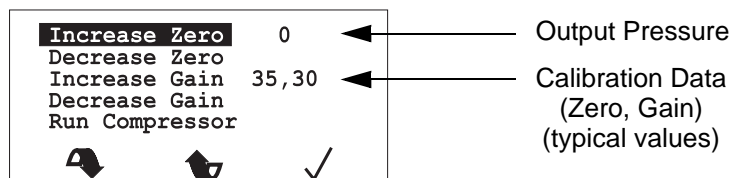

Figure 26 - LCD Display - Calibration Data
- 8.6 Using the **Down** and **Up** buttons below the LCD display (Refer to Page 5, Section 4), scroll down the list of options to **Calibrate PT**, and select it using the **✓** button below the LCD display. A new list of options will appear (Refer to Figure 26).
- 8.7 Before continuing with the re-calibration procedure, refer to the two **Calibration Data** values on the LCD display, and make a note of the **Zero** and **Gain** values (Refer to Figure 26).
- 8.9 Check the value of the **Output Pressure** shown on the LCD display (Refer to Figure 26). It should show zero pressure. If it does not show zero pressure, then adjust the zero calibration factor of the pump as follows:
- 8.9.3 As these adjustments are being made to the **Output Pressure** value, the **Zero** value on the **Calibration Data** will change (Refer to Figure 26).